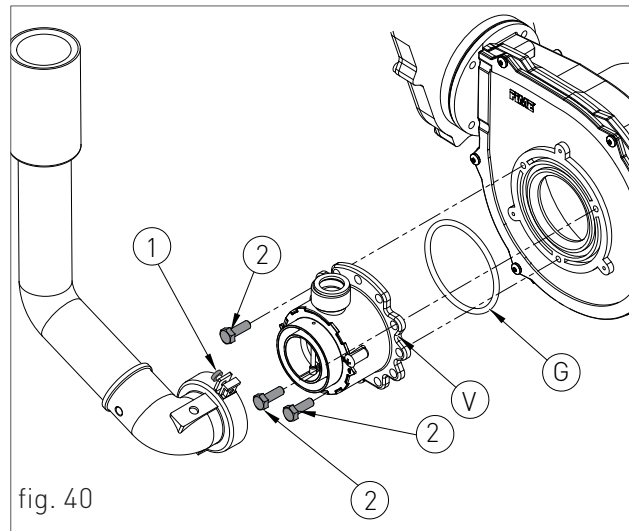
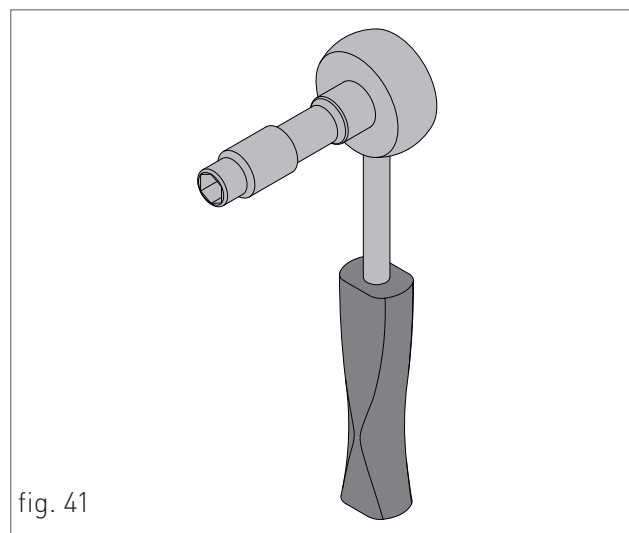

fig. 40
fig. 41
- > loosen the two screws '1' [fig. 40] from the fastening clamp, and remove the air suction tube;
- > unscrew the three fastening screws '2' [fig. 40] of the venturi 'V' [fig. 40] using a 10 key, as shown in figure 41;
- > remount the components following the demounting operations in reverse making sure that gasket 'G' is re-assembled as shown in fig. 40;